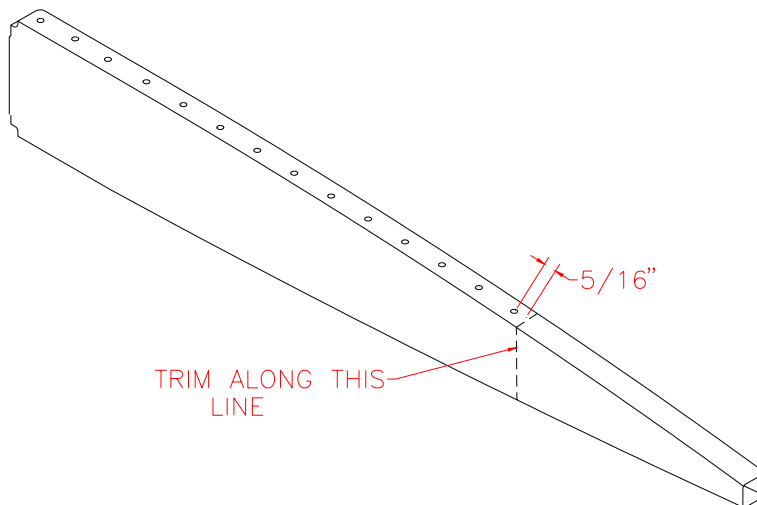

Figure 3.4.1
- 1) Mark the center two ribs  $5/16''$  from the last hole. Trim at this mark. Figure 3.4.1.